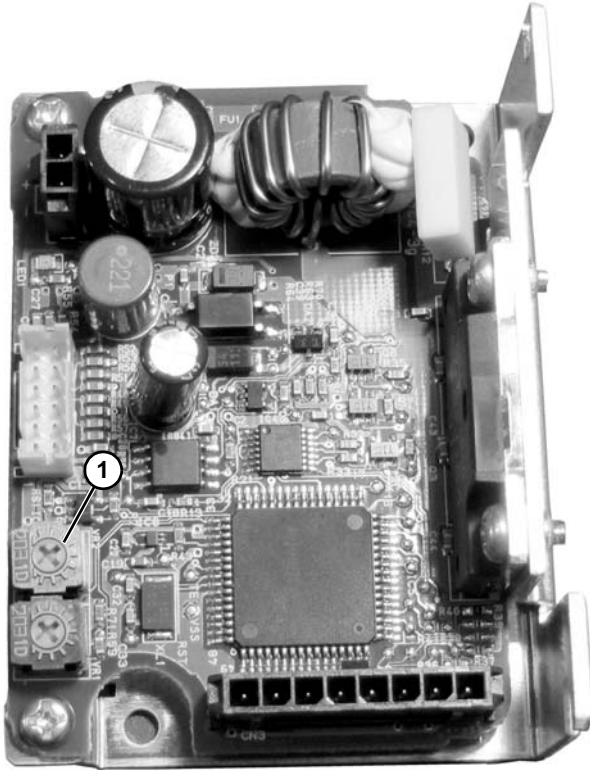

Figure 6
1. Adjust desired accel/decel at driver (**Figure 6, item 1**).